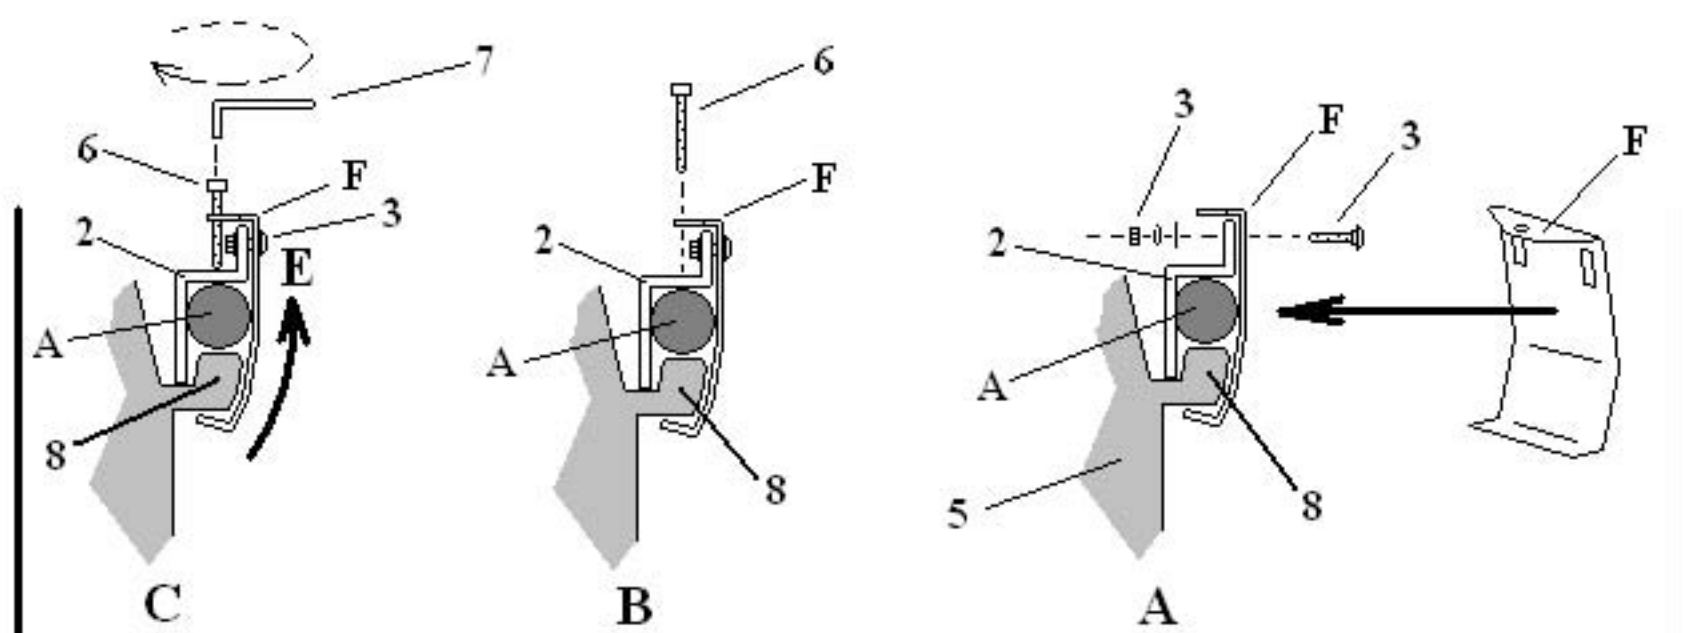
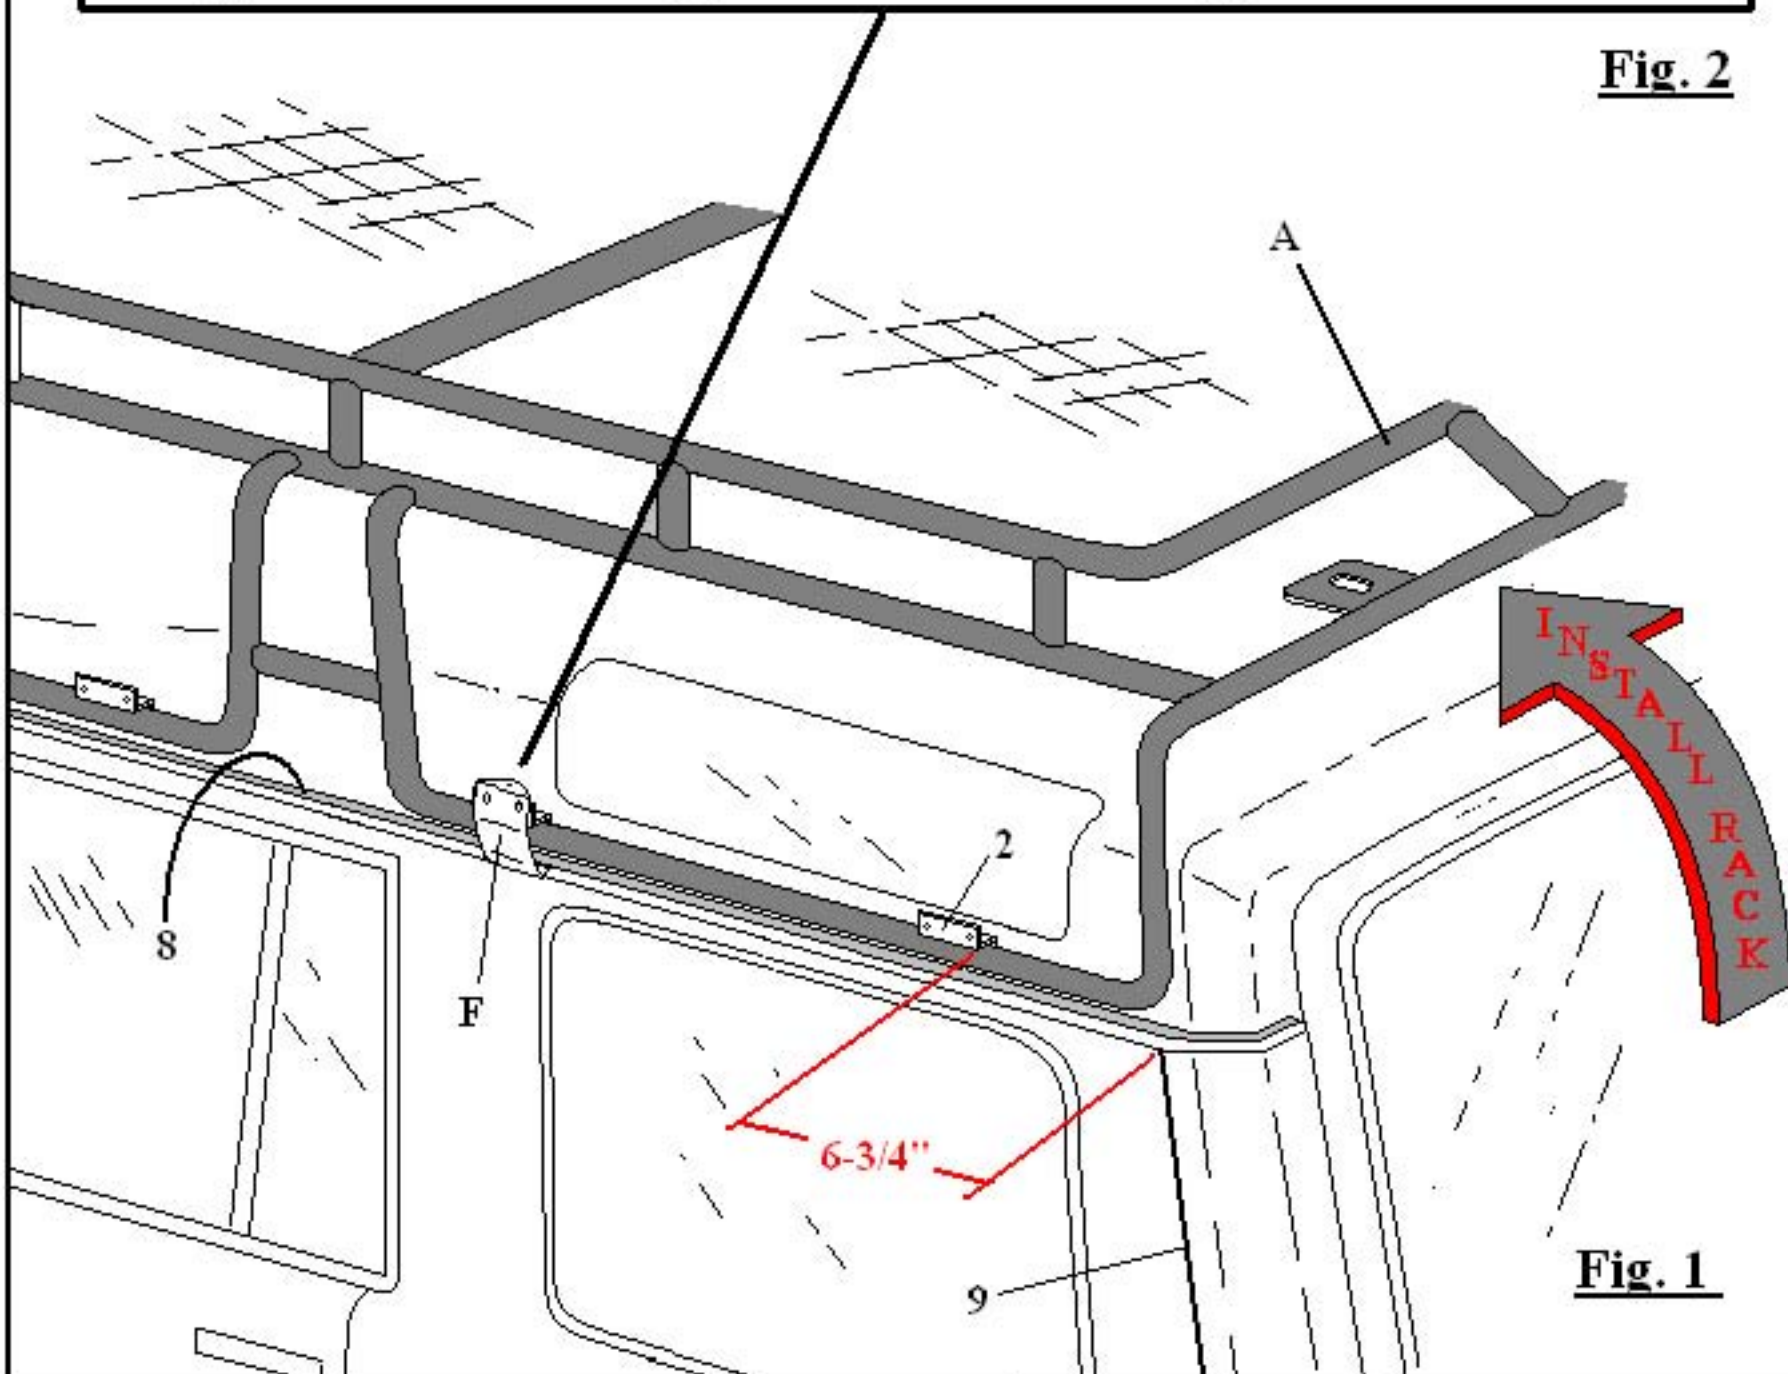

Fig. 2
Fig. 1
- 3- Refer to page 6 Fig. 1 remove Gobi roof rack (A) from packaging and **DO NOT** place clamp cover plates (F) onto roof rack at this time. With the help of two to four persons position the front of the Gobi roof rack (A) vertically then lift over the rear of the vehicle and onto the roof top gutters as shown by arrow at rear view of vehicle. Line up rear welded on support bracket tab #2 both driver and passenger sides of roof rack (A) 6 -3/4" from the rear vehicle seam #9 as shown in Fig. 1. Make certain all eight welded on support tabs #2 are seated on gutter #8 as shown in Fig. 2 (A),(B) and (C).
- 4- Refer to page 6 Fig. 2 and remove all clamp plates (F) from hardware kit as shown on page 3. Place each clamp cover plate over each welded on tab #2 as shown on Fig. 2 (A) then place 1/4-20 x 1" carriage bolt screws #3 located in Bag # 3 of your hardware kit through slots on cover plate and into welded on tabs holes and secure in place by a stainless steel washer, lock washer and nut. Finger tighten all carriage bolts on all eight clamp cover plates only at this time.
- 5- Refer to page 6 Fig. 2 and remove the 1/4-20 x 2" Allen cap screw #6 and 3/16" Allen wrench #7 from Bag #3 of your hardware kit. Refer to Fig. 2 (B) and thread the 1/4-20 x 2" Allen cap screw #6 into the top of each clamp cover plate one at a time. Turn screw #6 clockwise until you raise the cover plate (F) in the direction of "E" as shown in Fig. 2 (C) until you have pulled the cover plate up enough to secure the roof rack firmly to the vehicle roof gutter. Continue by fully tightening the two carriage bolts #3 on the clamp cover plate (F) using a 7/16" open end wrench. Once both carriage bolts have been completely secured in place remove the 1/4-20 x 2" Allen cap screw #6 and complete the same procedure to each of the remaining seven cover plate clamps (F). When you have completed the tightening procedure remove screw #6 and store both the 3/16" Allen wrench and 1/4-20 x 2" screw in your glove box for future use.